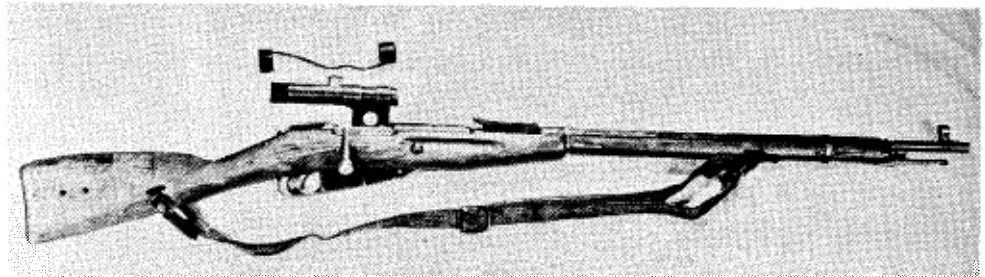

Figure 116. Model 1891/30 sniper's rifle w/PU telescope.
a. The Model 1891/30 sniper's rifle (fig 116) is a Model 1891/30 rifle, specially selected for accuracy, and fitted with a telescopic sight. In addition, the bolt handle has been lengthened and turned down alongside the stock.